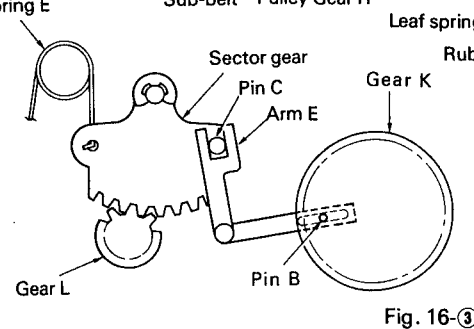

Fig. 16-3
- Head turning at pin "B" takes place until gear "K" starts turning which brings the "K" part into contact with the lever "B", "B" part. (Fig. 16-3)